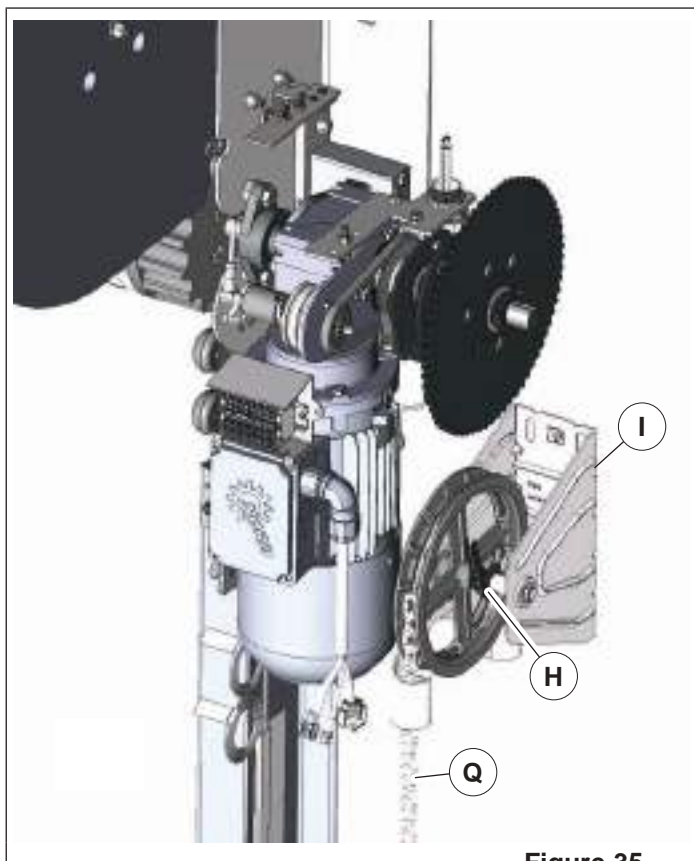

Figure 35
4. Install engagement arm bracket (D) with limit switch toward gearbox.
5. Install the (2) 1/4in x 1/2in [M6 x 13mm] bolts and 1/4in [M6] lock washers through the engagement arm on the top and side to hold the bracket in place (Figure 35).
11. Place the drive chain (H) around the chain hoist sprocket and then place the drive chain over the drive tube driven sprocket (Figure 35).
13. With the hand chain sprocket in toward the motor and the sprocket in line with the drive sprocket, plumb, level, mark and drill hole locations (toward bottom of the slot, to prevent chain hoist from sliding up) for fastening chain hoist assembly (I) to the wall. Use fasteners suitable to hold unit to the wall.
17. Install the hand chain (Q) (**Figure 35**) onto the chain hoist, down through hole in hand lever/chain blocker assembly and around chain tensioner pulley. The chain links can be taken apart to achieve the length needed.